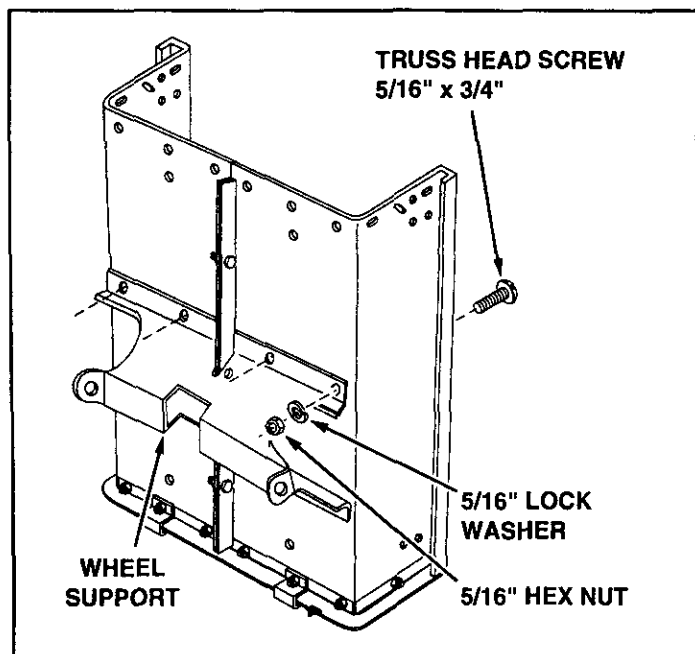

FIGURE 4
- Assemble the wheel support to the bottom of the cart using eight 5/16" x 3/4" truss head screws, 5/16" lock washers, and 5/16" hex nuts as shown in figure 4. Heads of screws go on the inside of cart. **Tighten.**